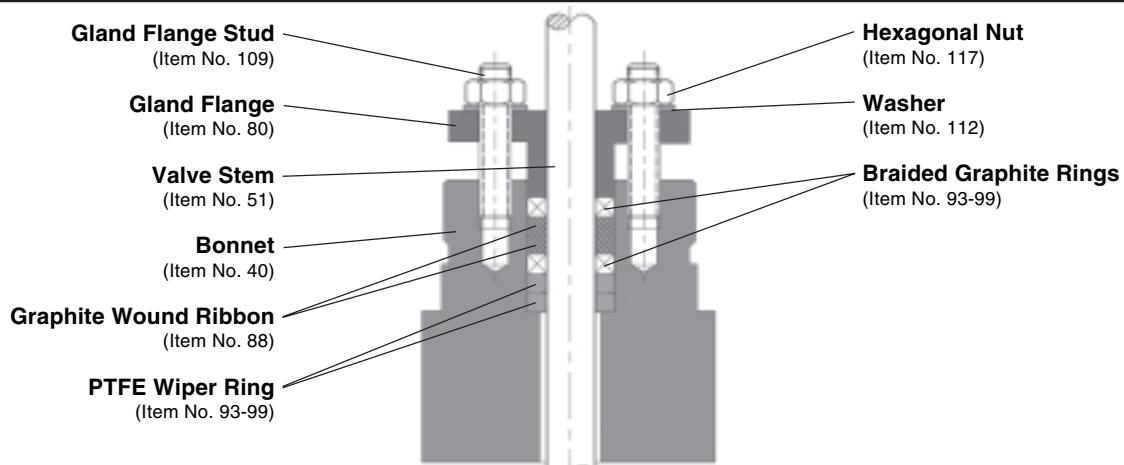
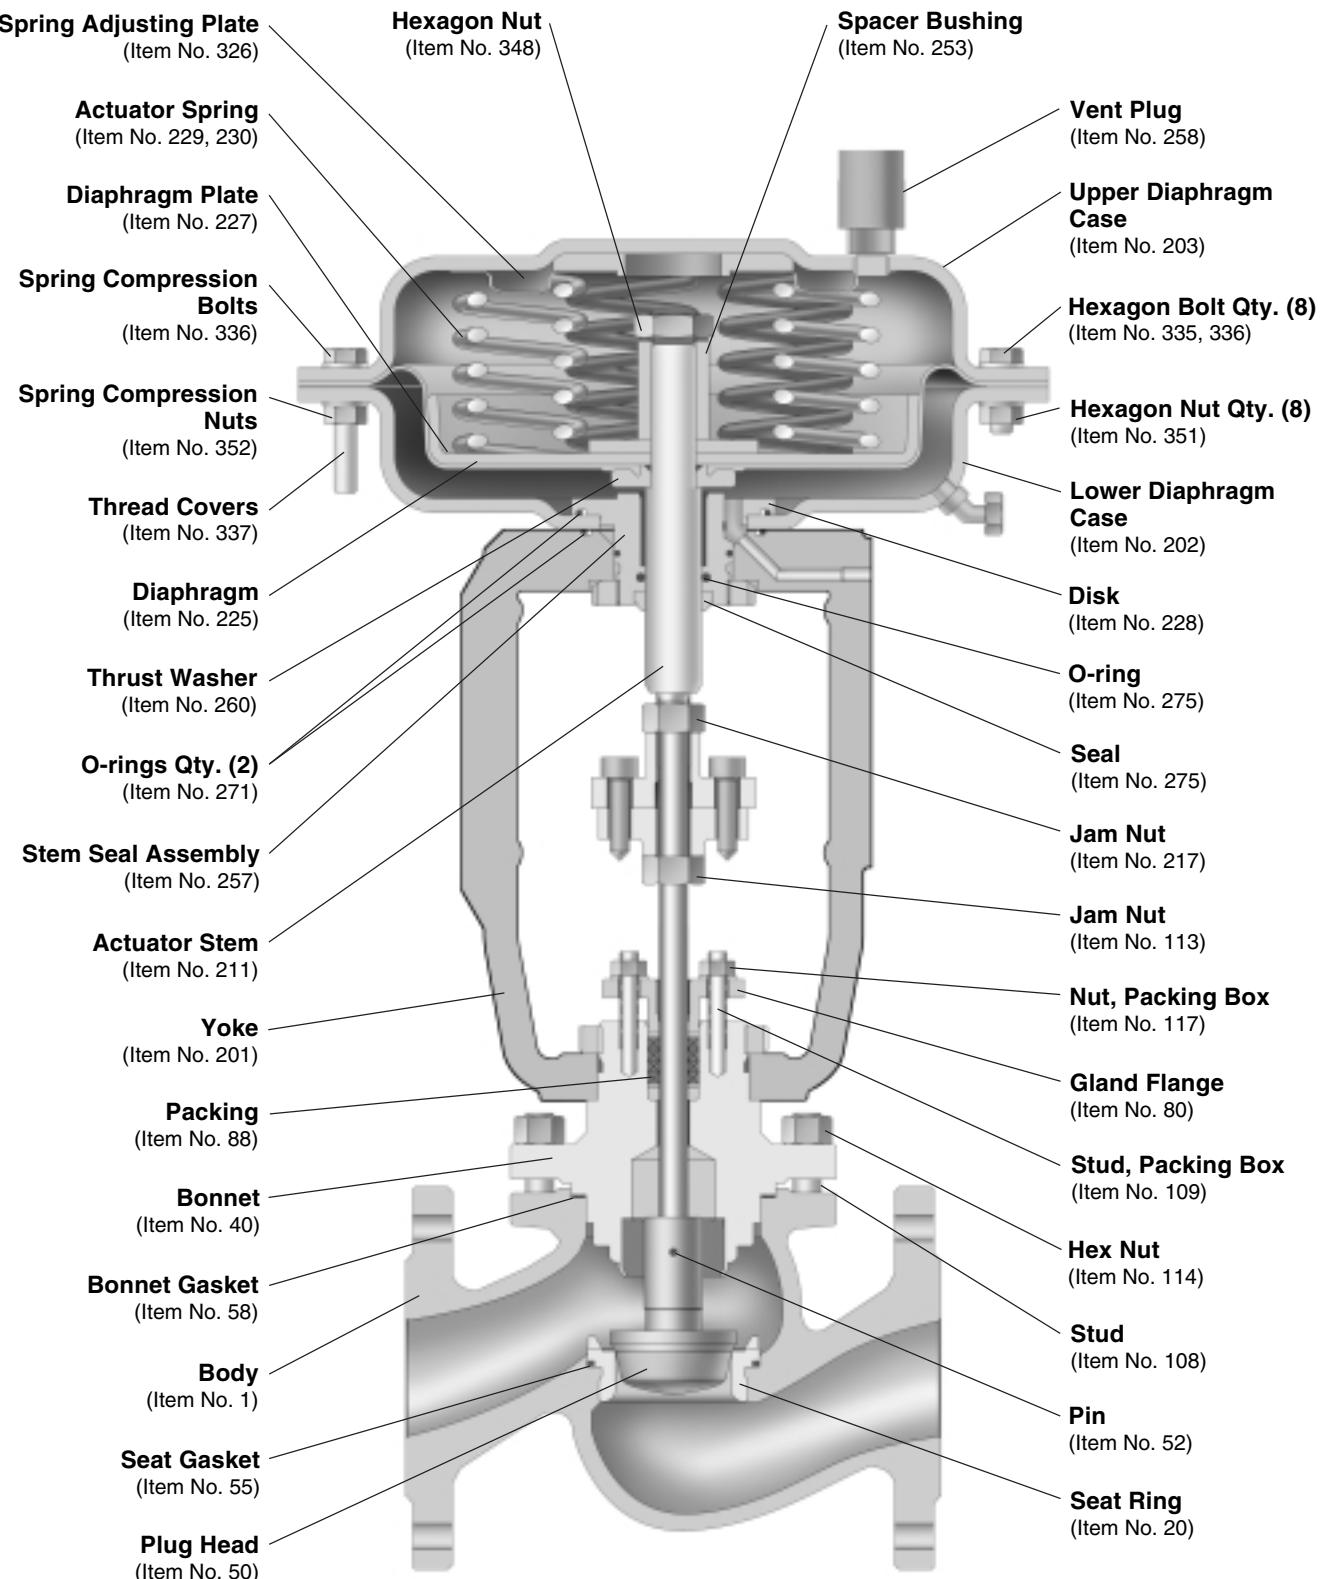

Figure 9: Graphite Ring Bellows Bonnet
Figure 10: FlowTop General Service Control Valve
3. Remove the upper diaphragm case (203).
4. Remove the actuator stem nut (248). Flats are provided on the lower end of the actuator stem (211) to prevent rotation. The diaphragm washer (360), diaphragm (225), spring plate (227), bushing (253) and springs (229) may now be removed.
5. Assemble the internal parts in accordance with Figure 9 air-to-close / fail-open (direct-acting) or Figure 10 air-to-open / fail-closed (reverse-acting). Follow above disassembly procedure 1 to 4 in reverse sequence. To simplify assembly, position the actuator in a vertical position.
3. Use a new actuator diaphragm (225) and assemble the internal parts in accordance with Figure 9 air-to-close / fail-open (direct-acting) or Figure 10 air-to-open / fail-closed (reverse-acting) for 2109.